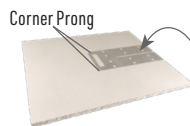

**Figure 1**
- The end of the joist should measure no more than 1-5/8" from the face of the supporting wall. See Figure 1.
- The joist should bear fully on the FWHL seat with a gap no greater than 1/8" between the end of the supported member and the hanger. See Figure 1.